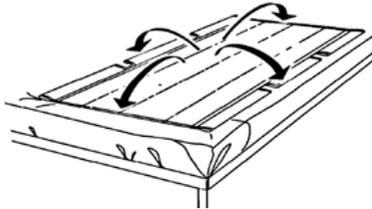

Fig. 7
2. Unfold the Canvas Stretcher, ensuring that the stretcher is correctly orientated. This will be confirmed when the openings on either side are as shown (see Fig. 7) and the head and feet labels are visible.